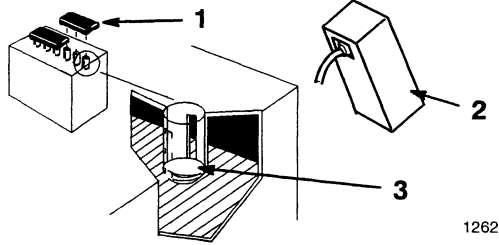

Figure 4
- Remove the filler caps from the battery. Slowly pour electrolyte into each cell until the electrolyte level is up to the lower part of the tube (Fig. 4). Use an electrolyte with a specific gravity of 1.265.
- Slowly pour electrolyte into each cell until the level is up to the upper line on the battery case (Fig. 4), then install the filler caps.